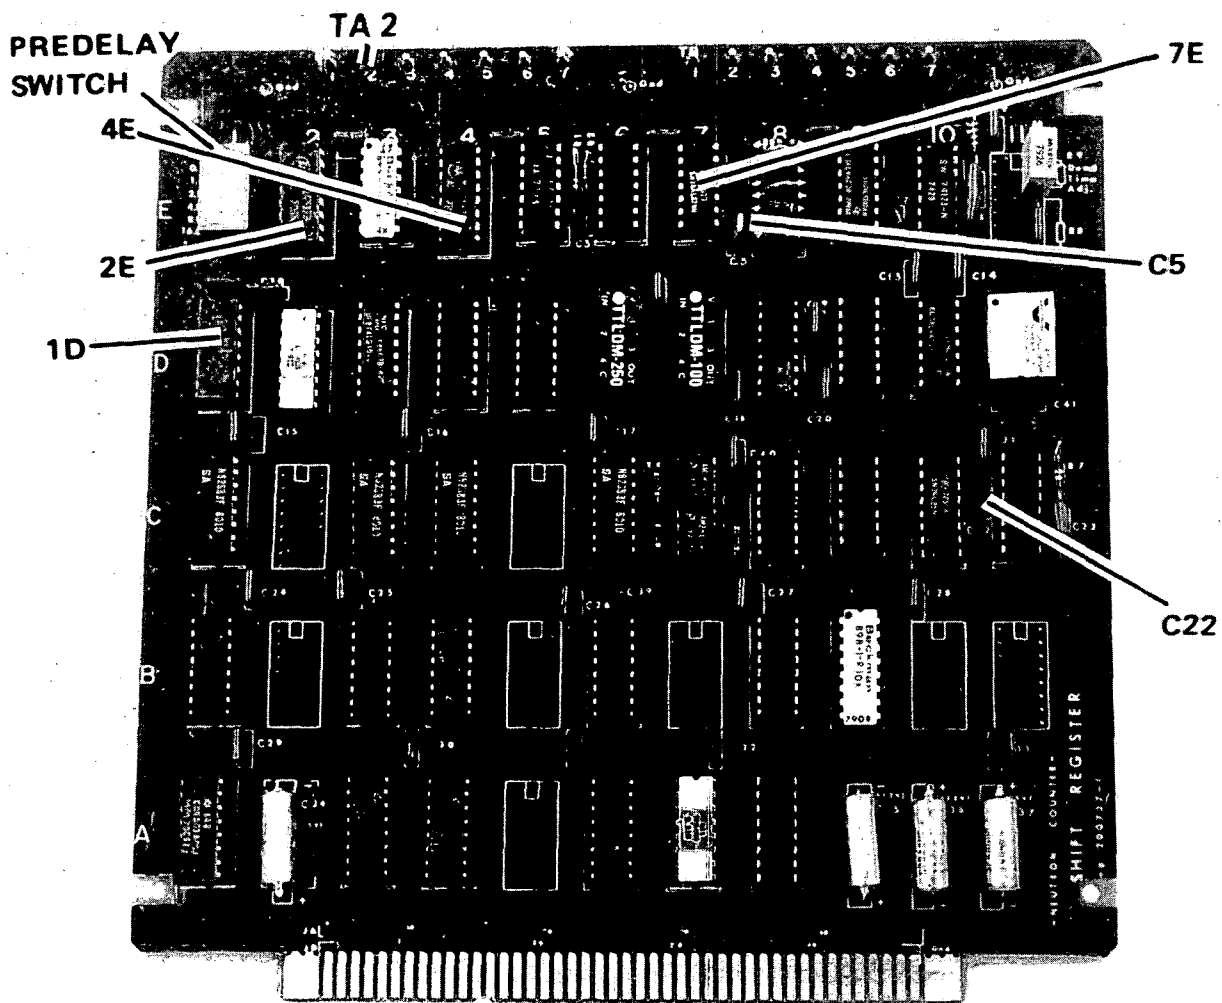

Fig. 3.
5. Check the following shift-register board components (Fig. 3):